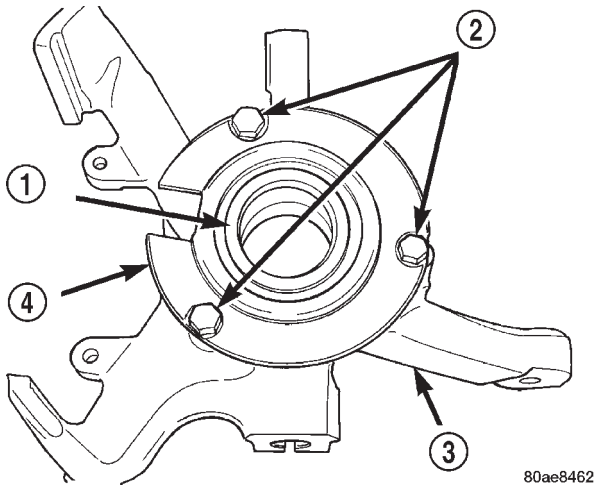

Fig. 40 Wheel Bearing Retainer Plate
(3) Install the bearing retainer plate on the steering knuckle (Fig. 40). Install the three bearing retainer mounting bolts. Tighten the bearing retainer plate mounting bolts to a torque of 28 N·m (250 in. lbs.).